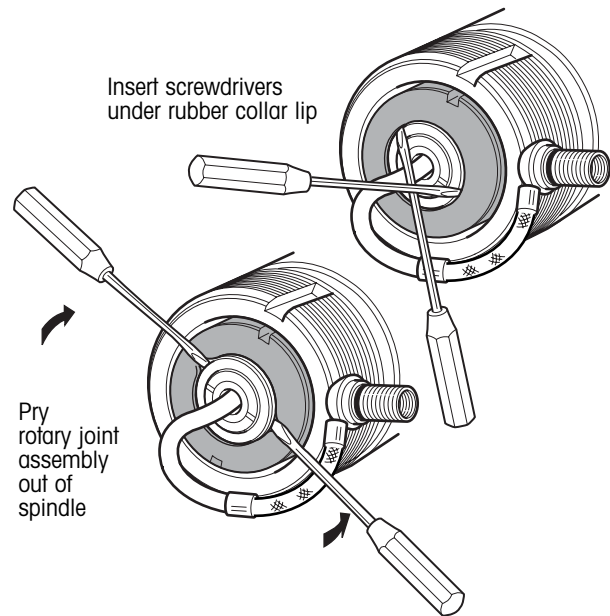

Figure 36. Original style rotary joint removal from spindle
- a. Place two screwdrivers 180 degrees apart with the blades under the lip of the rubber collar and over the metal lip of the rotary joint body (figure 36).